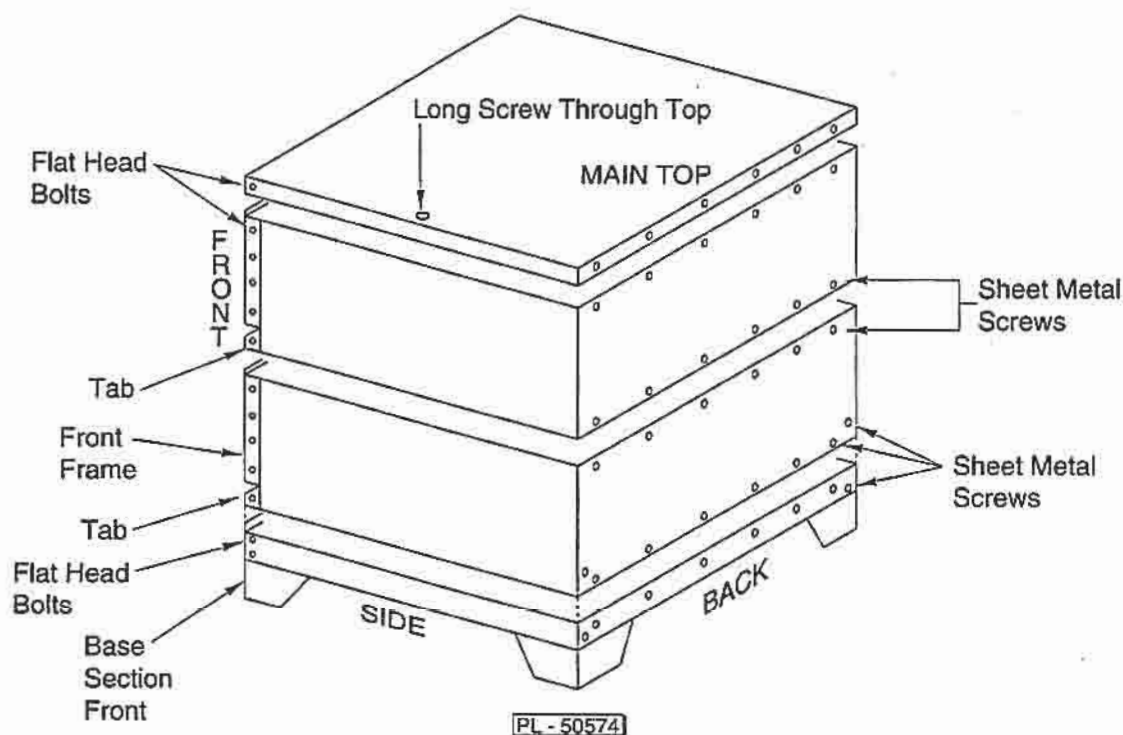

Fig. 1
6. Lift the middle or top oven up onto the base section. Slide the oven forward until the tabs (Fig. 1) on the body sides engage behind the base section front top.
8. Fasten sides to base section front with the flat head bolts (Fig. 1) provided. Fasten backs with sheet metal screws (Fig. 1) provided.
NOTE: When installing a new oven section without base on a previously installed oven section or sections, the main top should be removed and the new deck installed as in Steps 4 through 7. The main top should then be reinstalled, making sure that the vent stack engages with the vent cover and that the two long screws (Fig. 1) are replaced halfway along the main top sides.